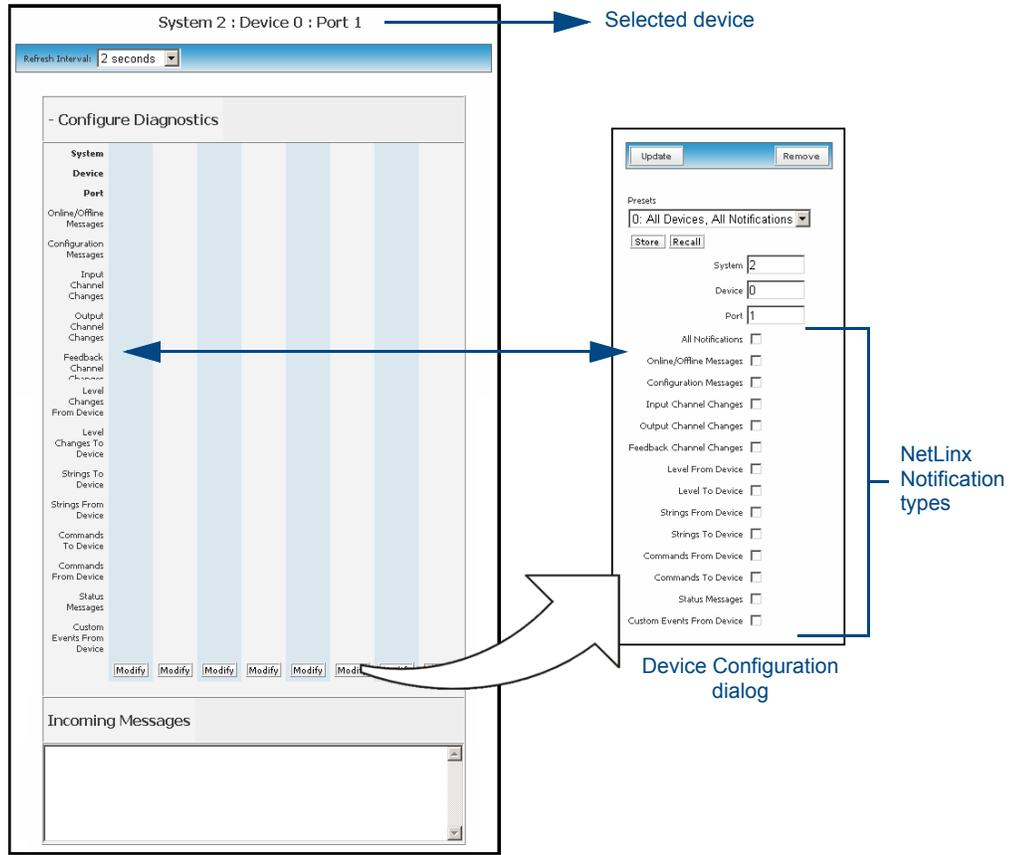

FIG. 48 Diagnostics dialog (showing modify popup)
3. Click the **Diagnostics** button to open the Diagnostics dialog (FIG. 48).